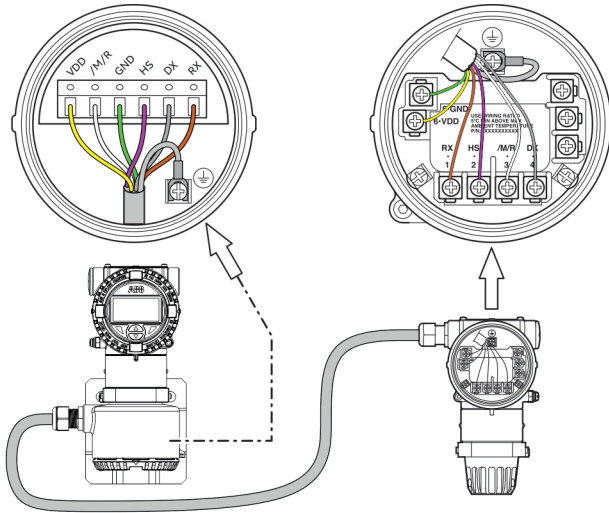

Fig. 32 Electrical connection
- Connect the wires to the corresponding terminals (see Figure 32).